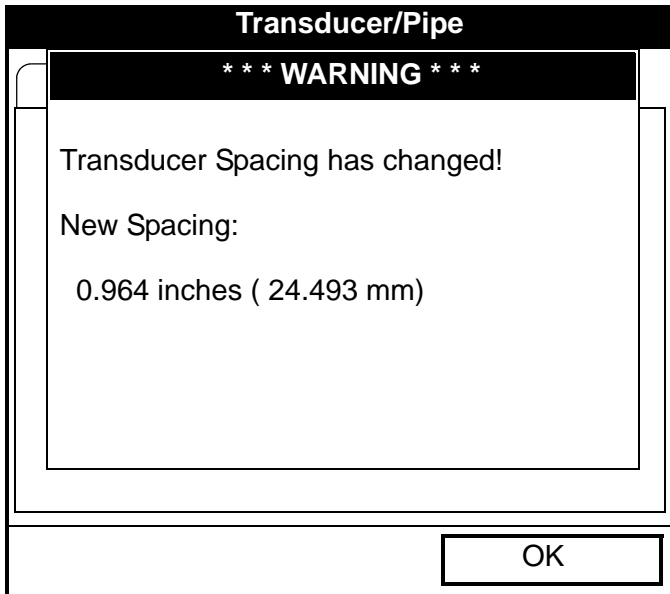

Figure 17: Transducer Spacing Change Window
Note: When the corrected soundspeed is entered, a message similar to Figure 17 on page 33 appears. Press [F3] (OK).to return to the Site Menu.